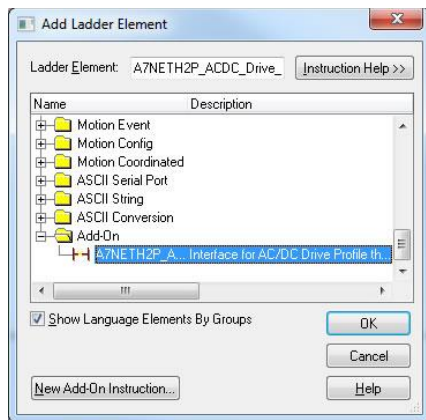

Figure 37: Add AC/DC Drive Profile Add-On Instruction
- 8) Select the AC/DC drive profile add-on instruction in the Add-On folder. Refer to Figure 37.